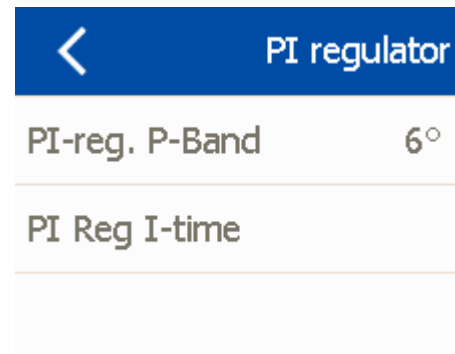

Fig. 101: PI controller
Setpoint values are controlled by a PI controller (called 'PI regulator' in the software). The 'PI regulator' screen (Fig. 101) allows you to set the P and I values for the PI controller. Once you change any P or I values, you cannot reset the controller to the factory set default values.
- ⇒ The 'PI regulator' screen (Fig. 101) displays.
5. ▶ On the screen in Fig. 101 , click on 'PI Reg I-time'.